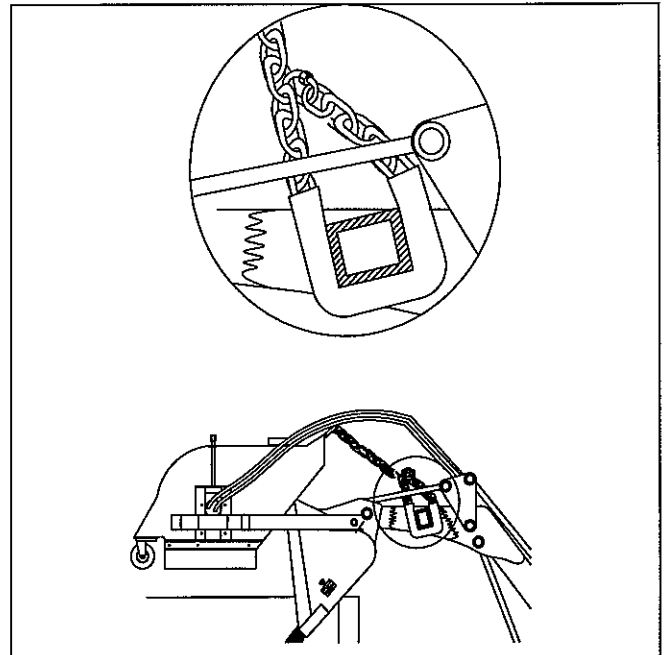

figure 3
6. Attach chains to a convenient location on the prime mover arms, such as a cross bar or step. Leave the chains loose with equal slack on both (figure 3).
9. Using 2 clevis pins, 2 rubber hoses and 2 quick links, attach chains to the loader lift arms. Be sure the chains do not crush hydraulic lines, and use equal lengths of chain on both arms (figure 3).